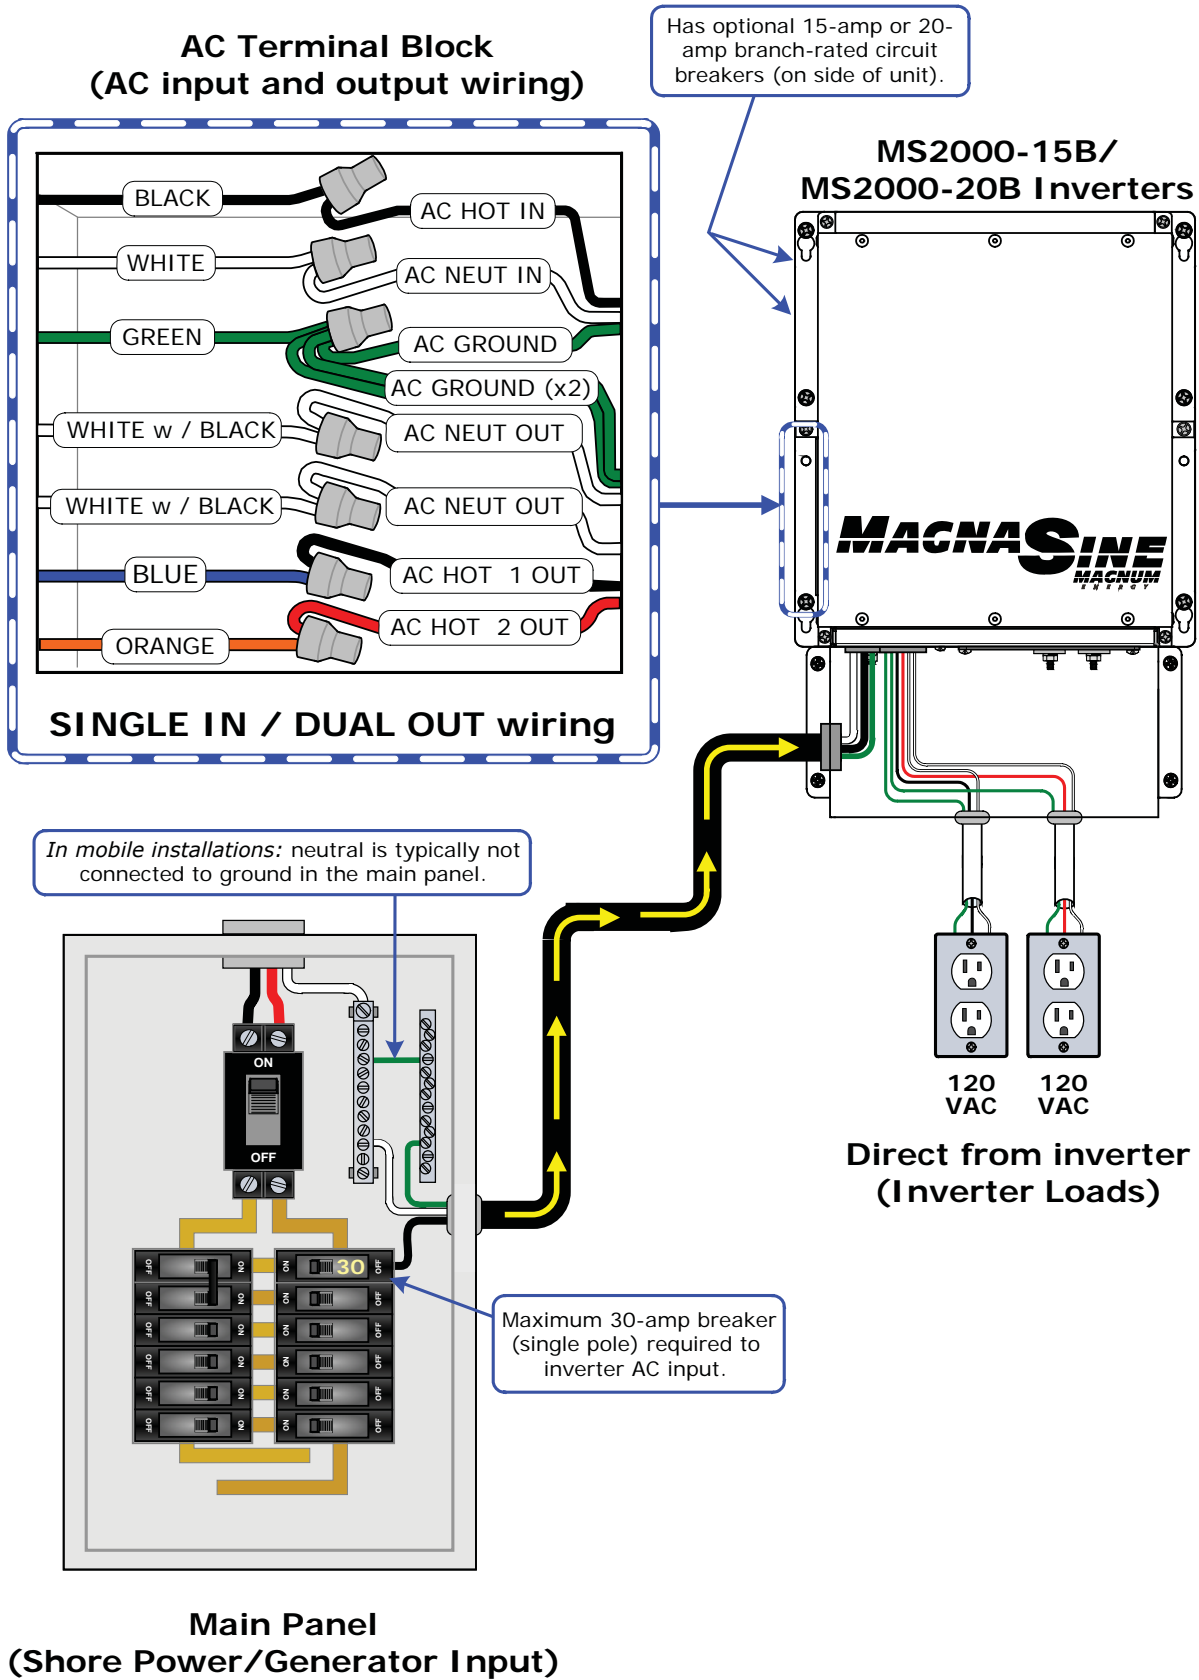

Figure 2-15, AC Wiring for Single In – Dual Out (MS2000-15B/-20B models) Configurations
**Info:** Depending on the AC wiring configuration, you may need to connect a wire to the inverter's HOT 2 OUT (orange) wire (see Figure 2-15).
3. Connect the inverter's NEUTRAL OUT (white w/black) wire to the sub-panel's neutral busbar (or to the neutral connections on the outlets, if using the output breaker versions - see Figure 2-15) using field wiring leads.